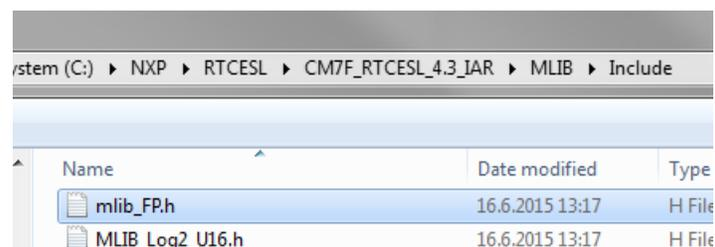

Figure 1-45. Add Files dialog
5. Navigate into the library installation folder C:\NXP\RTCESL\CM7F_RTCESL_4.5_IAR\MLIB\Include, and select the *mlib_FP.h* file. (If the file does not appear, set the file-type filter to Source Files.) Click Open. See Figure 1-45.